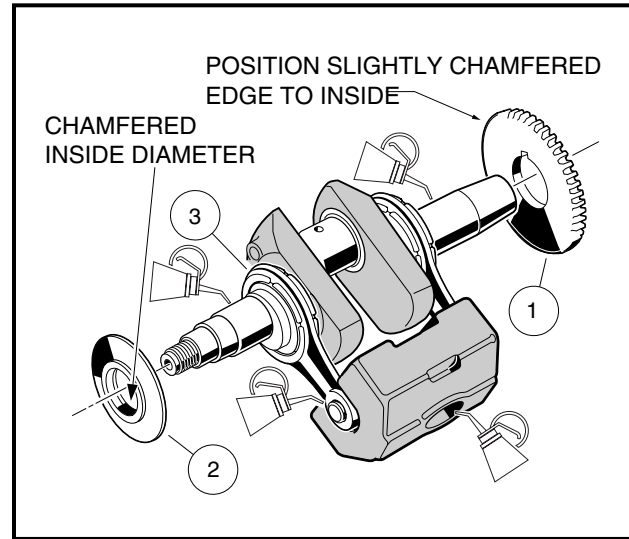

Figure 18-85 Crankshaft Assembly
**NOTE:** When assembling the crankshaft and the counterbalance weight, apply a light film of engine oil to the crankshaft journals and guide shaft (Figure 18-85, Page 18-40).